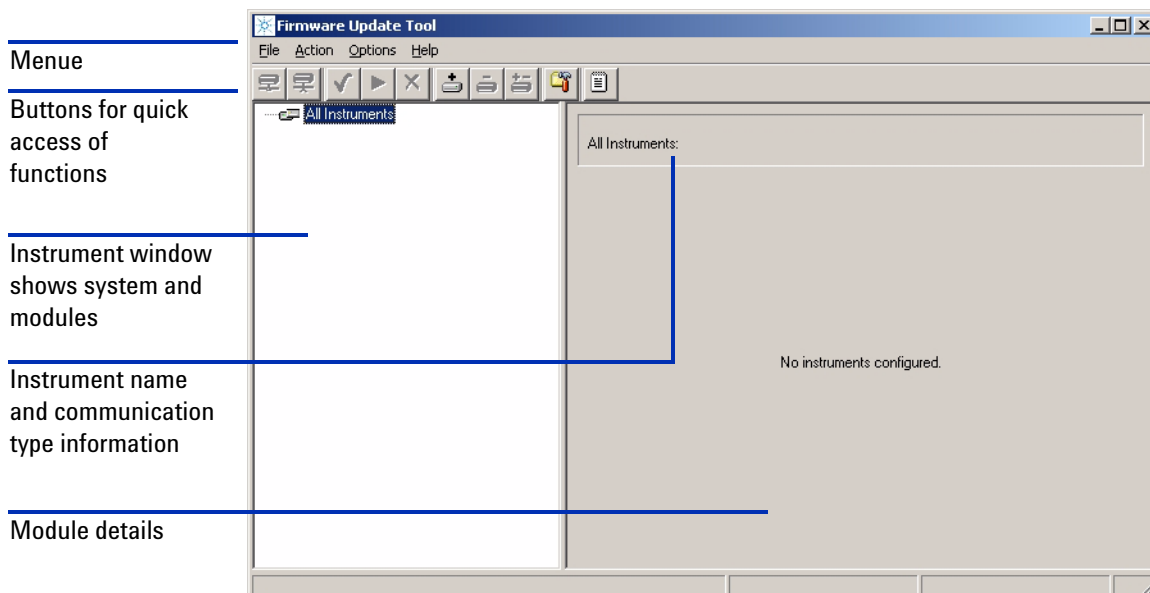

Figure 24 Start-up screen
- 1 Start the LAN/RS-232 Firmware Update Tool via the shortcut, see “Installation of the LAN/RS-232 Firmware Update Tool” on page 80. Figure 24 shows the initial screen.